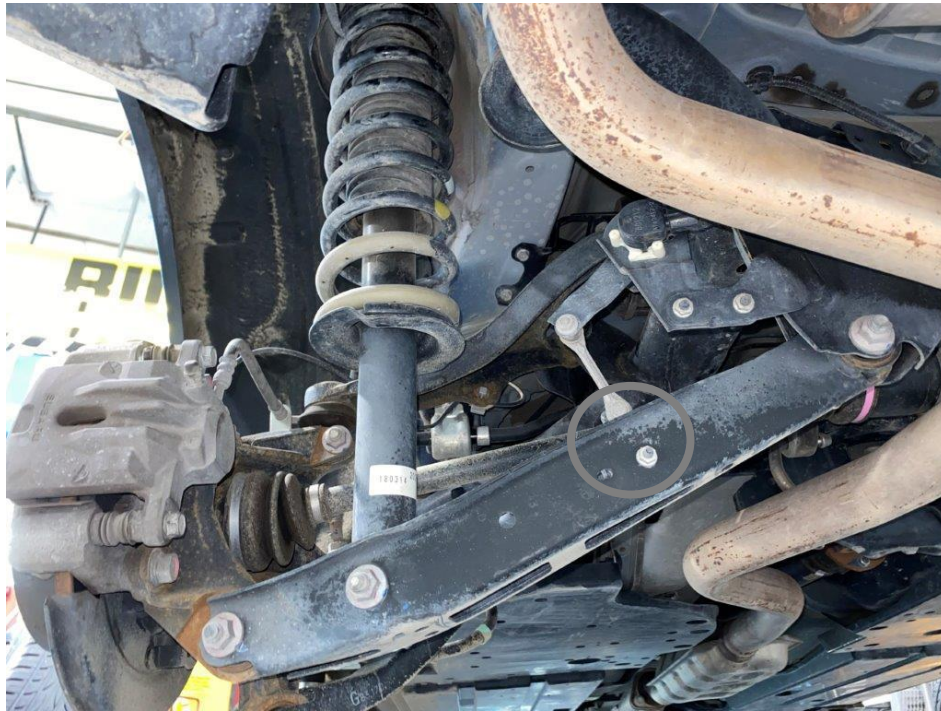

Figure 1
- D. If equipped with auto adjust headlight system, loosen the OE fasteners securing the ride height sensor bracket to the control arm as shown below in Figure 1.